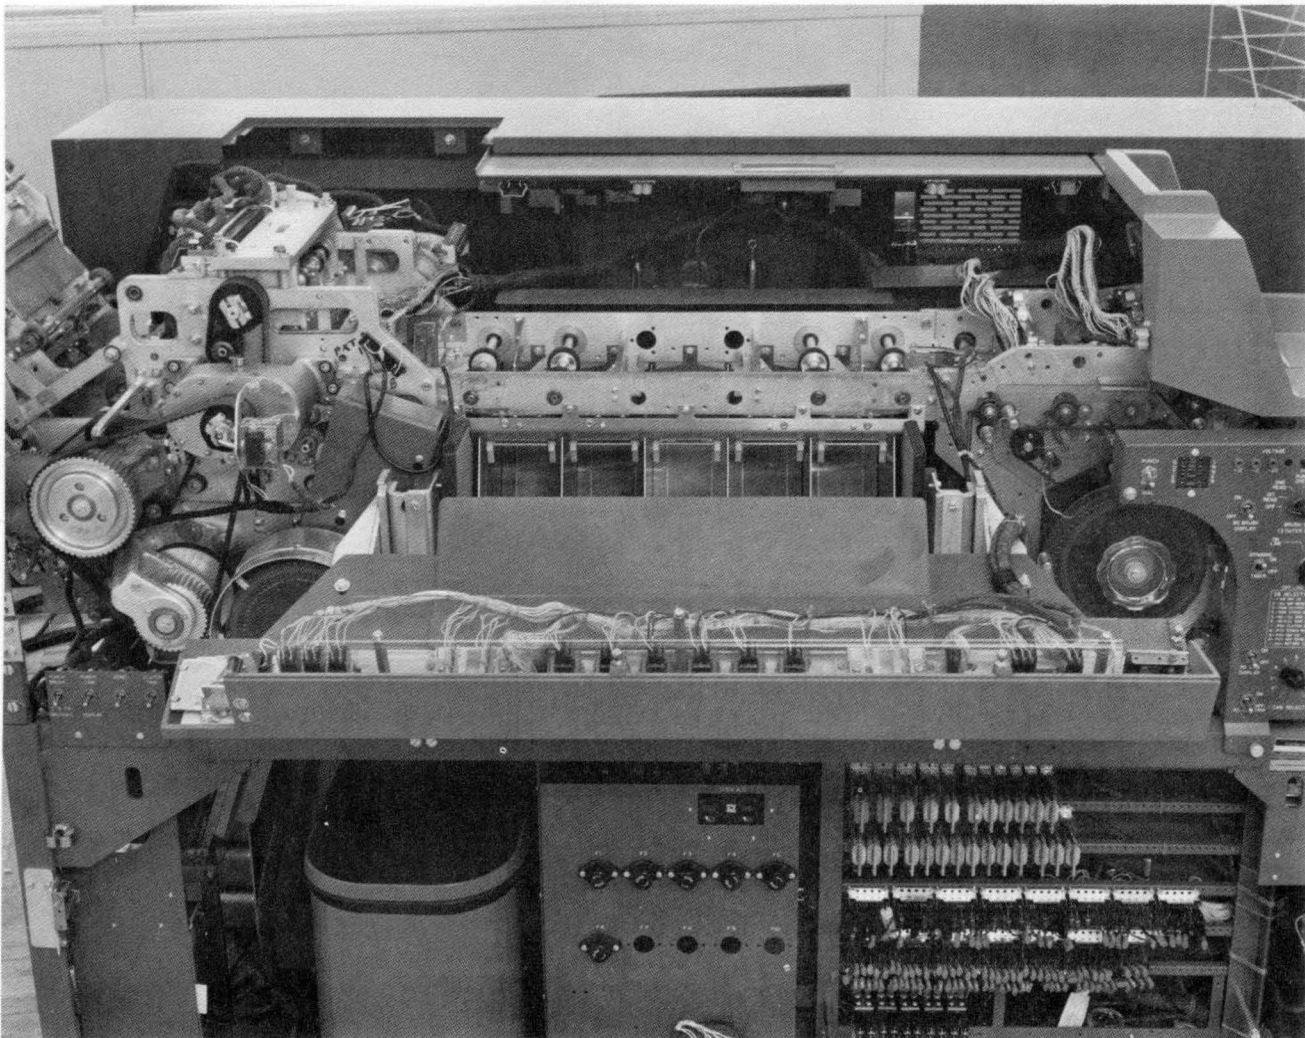

Figure 4-39. Upper Feed Roll Removal
1. Lower the control key and indicator light panel (Figure 4-39).